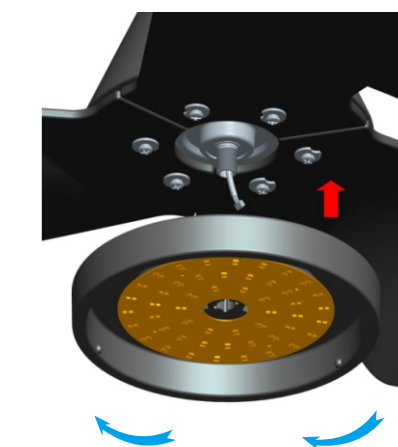
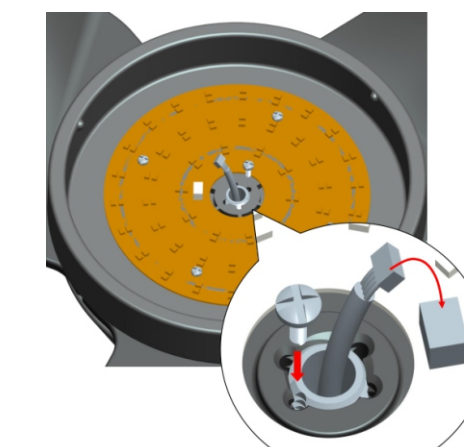

Fig 5.1
Fig 5.2
- 5.1 Feed the lamp wire connector of the motor assembly through center hole of the lamp pan. Rotate the lamp pan clockwise as shown in Fig 5.1 to lock the inner thread inside the middle hole of the lamp pan to the outer thread of the motor shaft. After locking, one of four notches in the middle hole of the lamp pan coincides with the notch of the motor shaft as shown in Fig 5.2.
- 5.2 Insert the lamp wire connector into the light board terminal block. Secure the lamp pan screw inside the hole where the notch in the center hole of the lamp pan coincides with the notch of the motor shaft to lock in as shown in Fig 5.2.